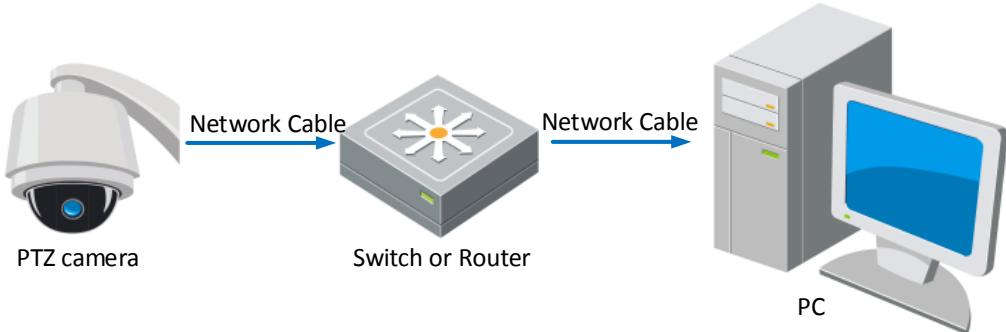

Figure 2-2 Connecting via a Switch or a Router
- Refer to the Figure 2-2 to set the network PTZ camera over the LAN via a switch or a router.